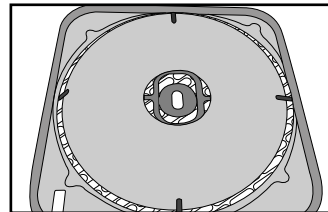

Fig. 4
3. The pre-filter and Nano-Coil filter will be installed already. Confirm that Nano-Coil filter is fully engaged on center hub. To install the VOC/Odor filter (optional), remove the VOC/Odor filter from the plastic bag. Place the VOC filter into the unit flush against the pre-filter, secured by four clips. See Fig. 4